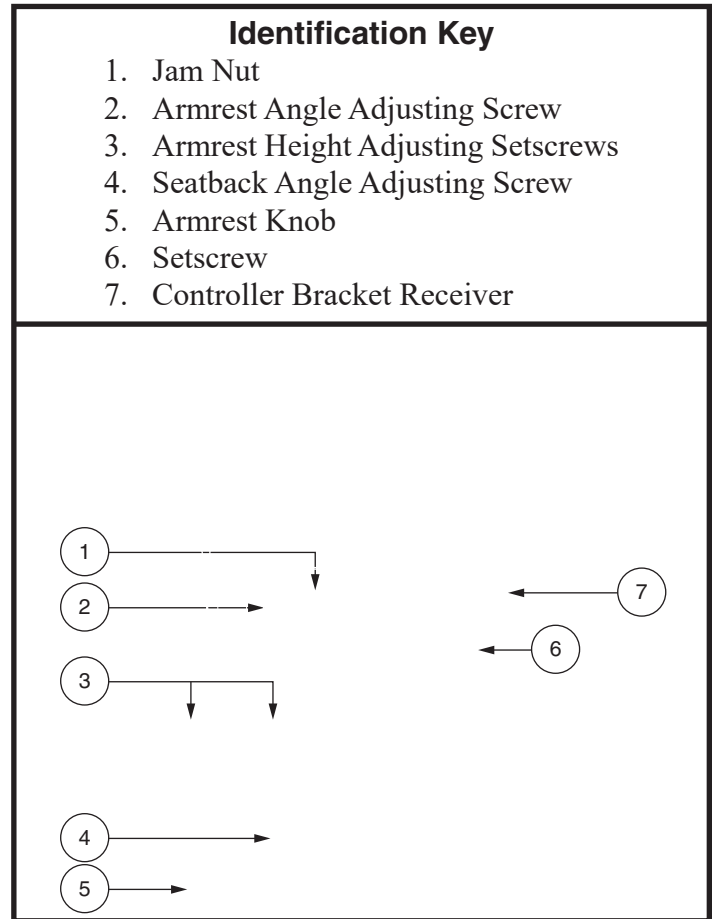

Figure 9. Armrest and Seatback Adjustments
NOTE: The most common configuration of the seat adjustment hardware is shown in figure 9. Your product may be equipped with a different configuration. All configurations operate in a similar manner.
1. Remove the adjusting screws from each seat hinge. See figure 9.
1. Locate the adjustment hardware on each side of the armrest receiver bracket. See figure 9.
2. Loosen the jam nut. See figure 9.
1. Loosen the setscrews on the armrest. **See figure 9.**
3. Loosen the setscrew on the controller bracket. **See figure 9.**
5. Loosen the setscrew on the underside of each armrest. **See figure 9.**